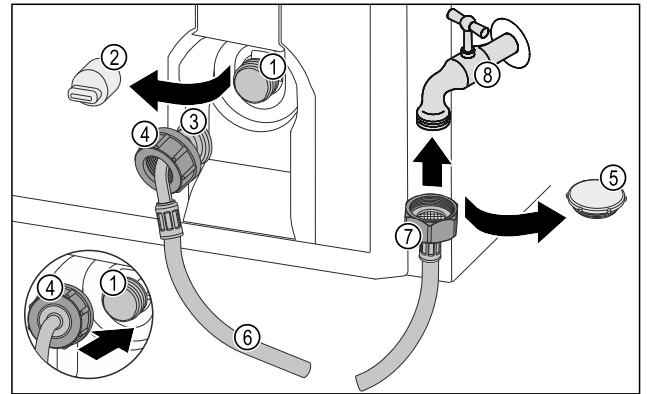

Fig. 16
- ▶ Remove the closure cap Fig. 16 (5).
- ▶ Place the straight end of the hose Fig. 16 (7) on the tap Fig. 16 (8).
- ▶ Tighten the nut at the straight end of the hose Fig. 16 (7) in a clockwise direction.